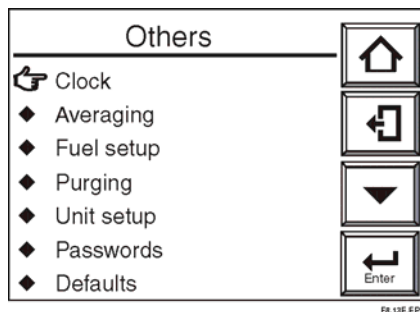

Figure 8-13 Other Settings
3. Select “Others” in the “Commissioning” (Setup) display screen. The “Others” display screen then appears, as shown in Figure 8-13.